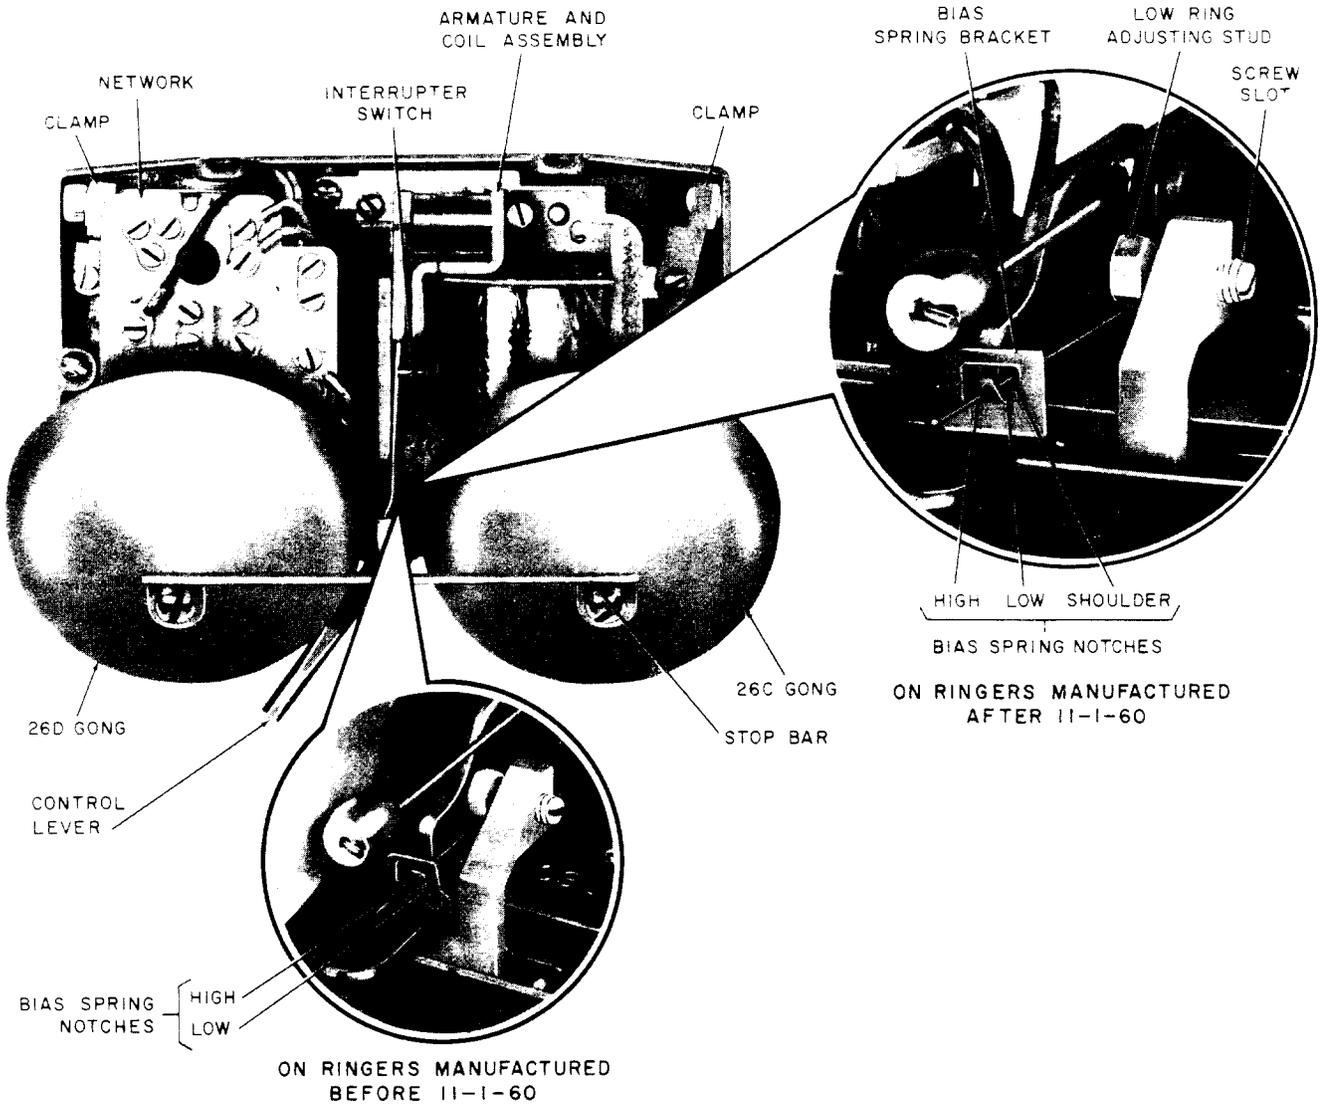

Fig. 3—F1A Ringer, Components
2.01 The F1A (MD) ringer is a single coil, high impedance ringer with a 2 position bias spring adjustment. The component parts, shown in Fig. 3, are as follows:
- (f) A stop bar (Fig. 3) to prevent cover from touching gong assemblies.
Remove the F1A ringer from shipping carton with care and handle ringer prior to installation with equal care to avoid changing adjustment of interrupted switch assembly. (See Fig. 3.) Keep the F1A ringer in a plastic bag in shipping carton prior to installation. When F1A ringer is removed from shipping carton to be installed, do not leave plastic bag where it is accessible to children.
CAUTION: On earlier models of the FIA ringer, the interrupter switch assembly was not mounted separately. Loosening the left clamp screw may allow the component plate to shift, changing the position of the interrupter switch. On later models of the FIA ringer (Fig. 3), the rack arm may become displaced from under the 26C gong plate preventing movement of the ringer control lever to either the LOUD or CHIME position. Use care to prevent these conditions when loosening the left clamp screw and fully tighten clamp screw when the set cord is installed.
3.09 Adjust volume of low ring by moving adjusting stud (Fig. 3) right or left; use a small screwdriver in slotted end, located beneath right gong. Be sure that rack arm does not snag on gong plate.
4.01 The ringer is shipped with bias spring in high (left) notch. Table A indicates proper position of bias spring for various classes of service. (See Fig. 3.)
4.03 The biasing spring bracket has been changed on later models of the FIA ringer. (See Fig. 3.)